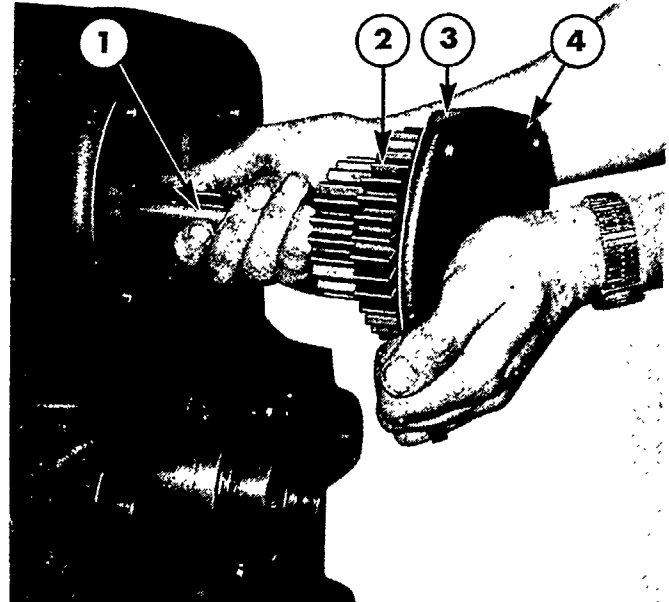

Figure 5
7. Remove the bolts that secure the upper shaft rear bearing retainer then remove the retainer, gasket, P.T.O. drive gears, rear bearing and shaft, as shown in Figure 5.